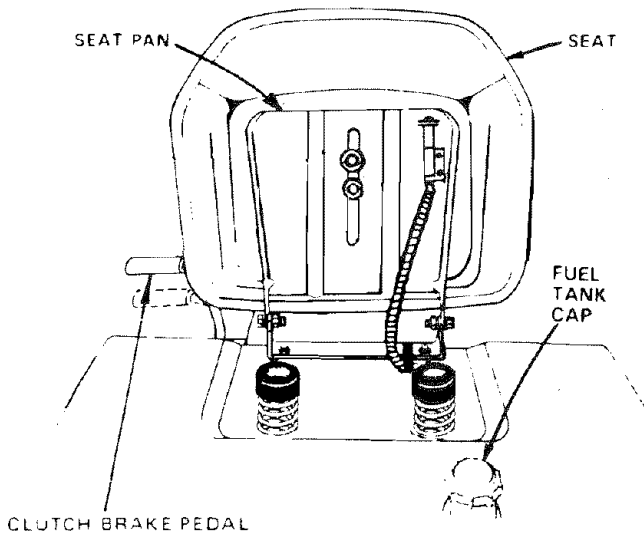

FIGURE 13
- b. Fill fuel tank (Fig. 13). Use fresh, clean, regular unleaded automotive gasoline. (Use of leaded gasoline will increase carbon and lead oxide deposits and reduce valve life). Capacity is 3-1/2 gallons.